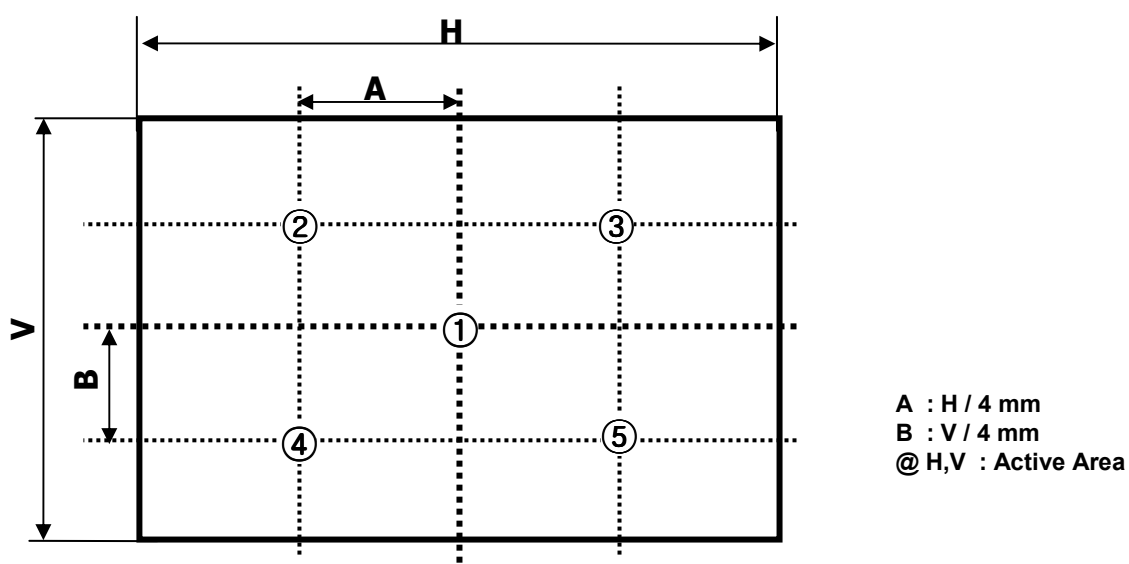

FIG. 2 5 Points for Luminance Measure
n = the Position number(1, 2, 3, 4, 5). For more information, see FIG 2.
2. Surface luminance are determined after the unit has been 'ON' and 1Hour after lighting the backlight in a dark environment at  $25 \pm 2^\circ\text{C}$ . Surface luminance is the luminance value at center 1-point across the LCD surface 50cm from the surface with all pixels displaying white. For more information see the FIG. 2.
For more information, see the FIG. 2.